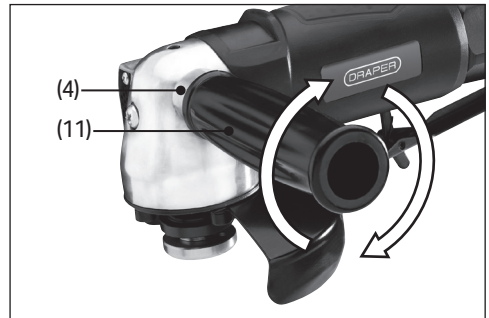

Fig. 5
6.5 Attaching Side Handle - Fig.5